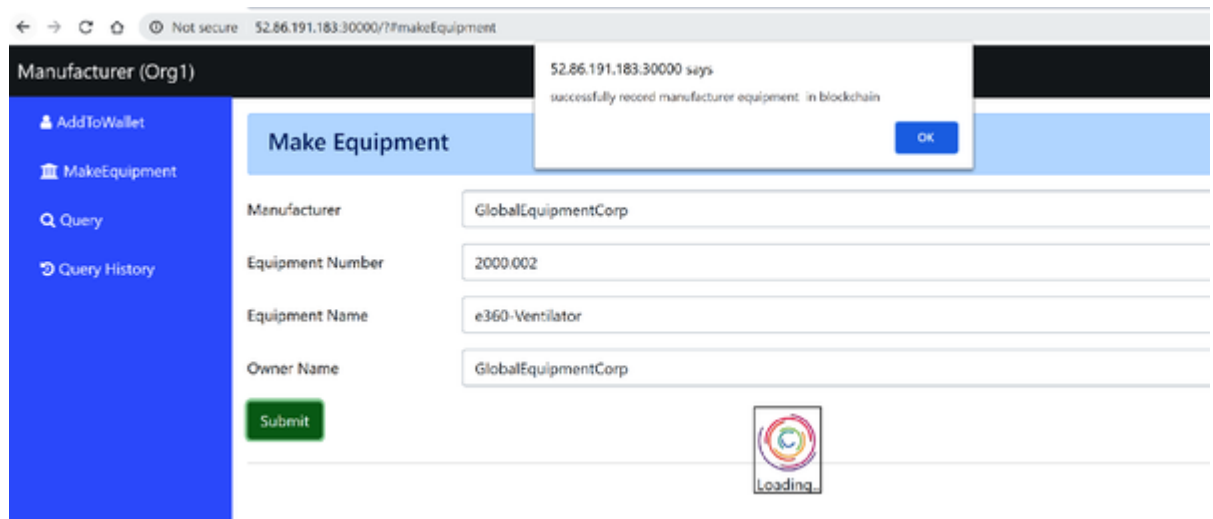

Figure 10: Adding equipment to the PLN network
10. With the user wallet set up, the application can now connect to our PLN and interact with the chaincode. Click *MakeEquipment* on the left menu, enter all required equipment information, and submit the request (**Figure 10**). The success response will be returned from the blockchain.